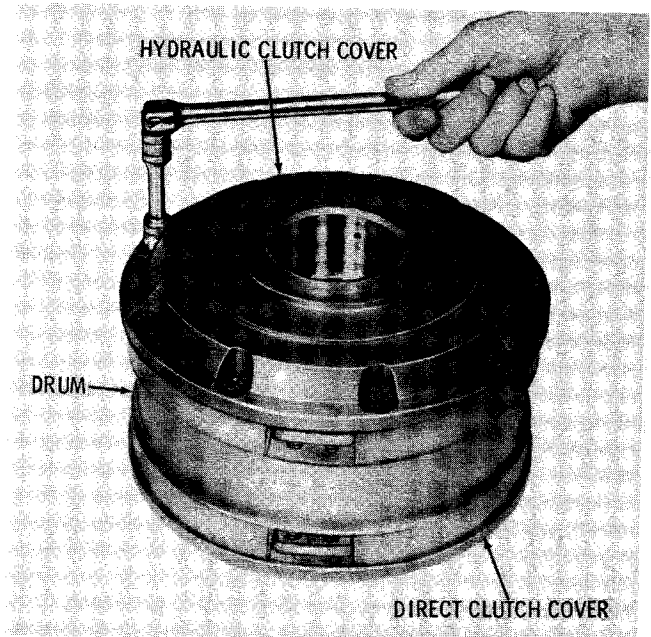

Fig. 5-26. Removing (or installing) hydraulic ^{S2026}
(3) Lay the clutch assembly (fig. 5-26) on a flat surface with the hydraulic drive clutch side up.